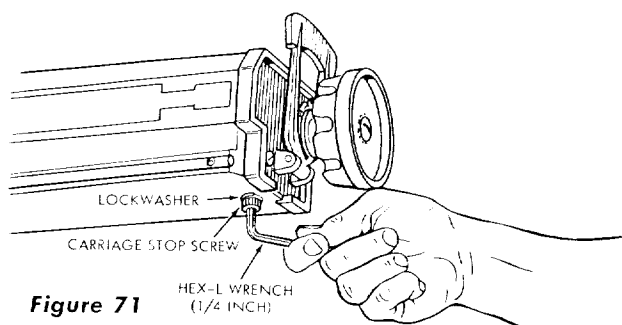
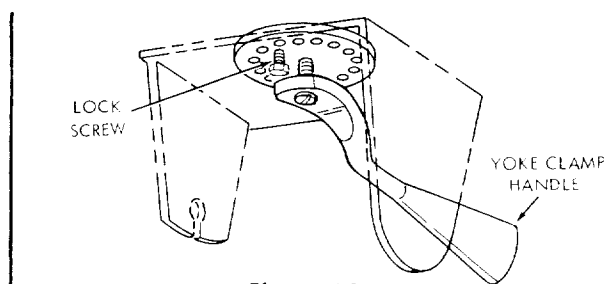
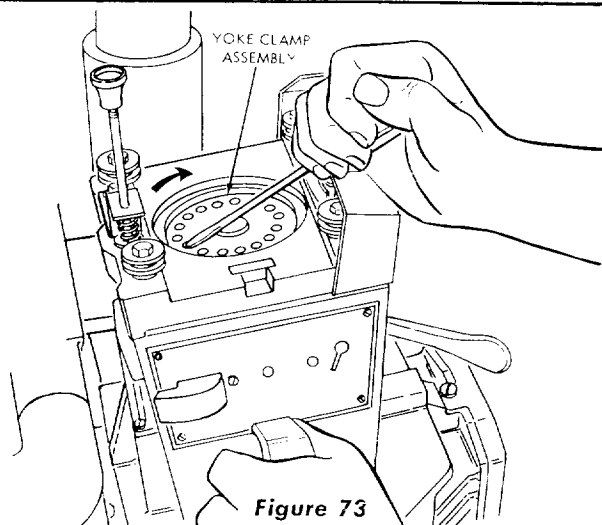

Figure 71
Figure 72
Figure 73
- (2) Remove the carriage stop screw and lockwasher (figure 71) with a 1/4-inch hex-L wrench.
- (3) Grasp the motor and carriage assembly and, holding it parallel to the radial arm until all bearing rollers are free of their tracks, move it carefully off the end of the arm.
- (4) Rest the motor and carriage assembly on saw table and remove the lock screw (figure 72).
- (5) Using a screwdriver, rotate the yoke clamp assembly (figure 73) clockwise until the next hole will line up with the lock screw. (See figure 72.) Usually rotating the yoke clamp assembly one hole will correct this adjustment. However, in some extreme cases it may be necessary to rotate it two holes or more.
- (6) Install and tighten the lock screw. (See figure 72.)
- (7) Hold the motor and carriage assembly parallel to radial arm and start the rear bearings onto the tracks. Continue to hold the assembly parallel to the tracks until the forward bearings are on the tracks.
- (8) Slide the carriage rearward on the radial arm and install the carriage stop screw and lockwasher (figure 71).